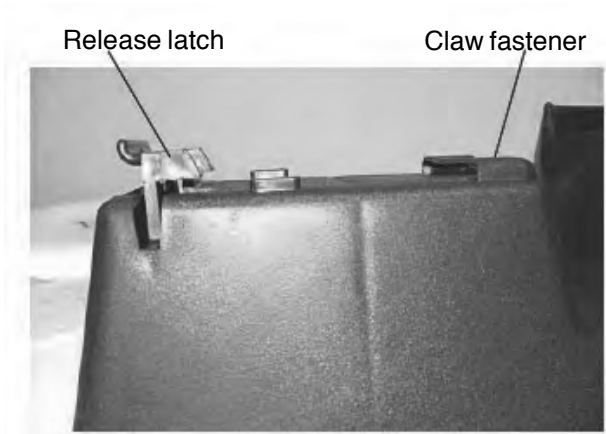
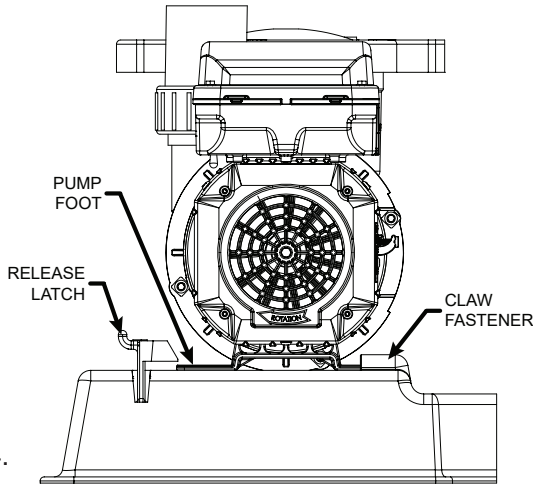
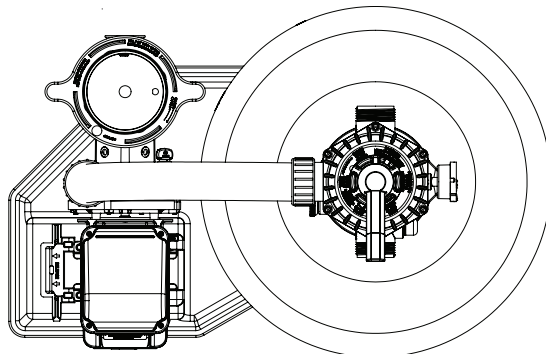

Figure 3.
Figure 4.
Figure 5.
G. Slide the pump foot between the claw fasteners and the release latch. See Figure 3. Seat the pump by pushing down on it until the release latch clicks into place on the pump foot. See Figure 4. The pump should be positioned as indicated in Figure 5. Install the two #20 x 1-1/4" long lag bolts through the slots in the foot of the motor, into the two holes in the base near the release latch.